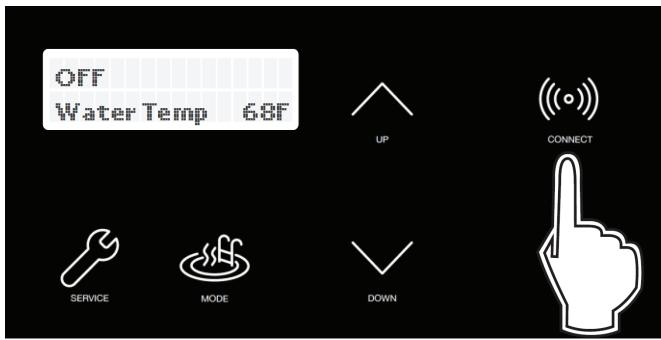

Figure 78. CONNECT Key
1. Stand near the display of the AVIA unit. Press the CONNECT key. See **Figure 78**.